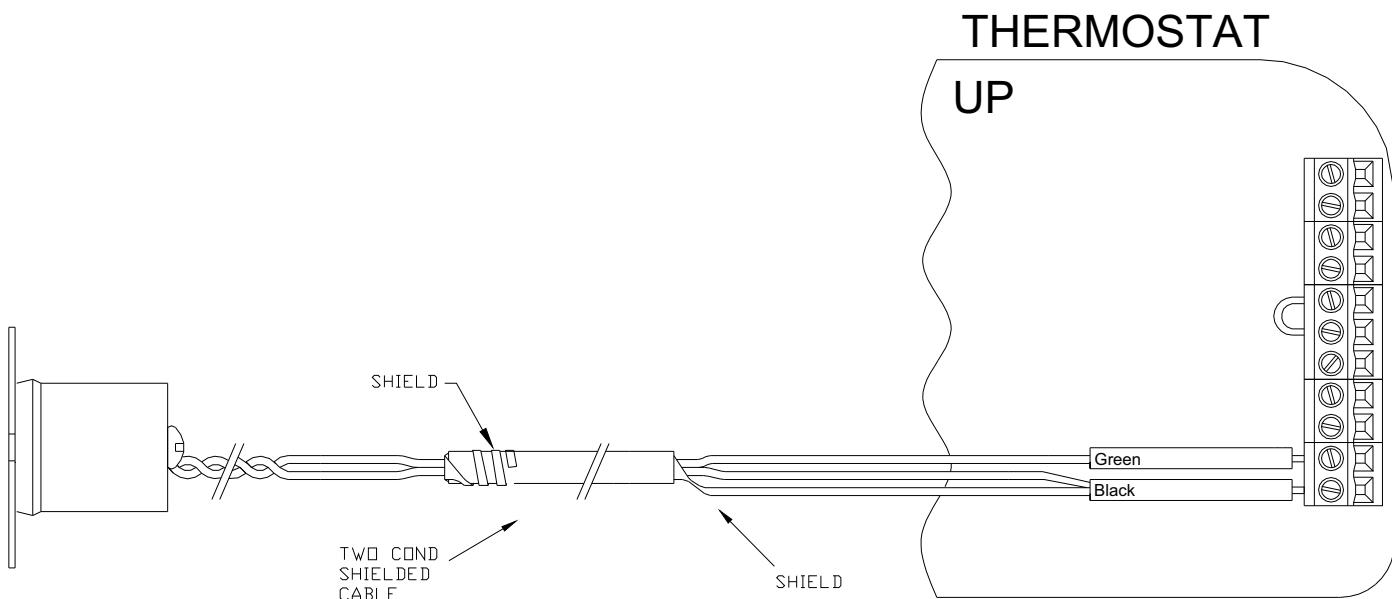

Figure 13 – Connections to a Remote Temperature Sensor
Make the connections to the Green and Black terminals under the section marked “Remote Temp Sensor” on the right terminal strip - See *Figure 13*.
1. When connecting a remote temperature sensor, the shield and one of the wires from the remote temperature sensor are tied together and get connected to the Black terminal – See *Figure 13*.